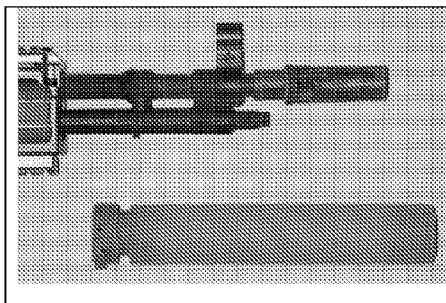
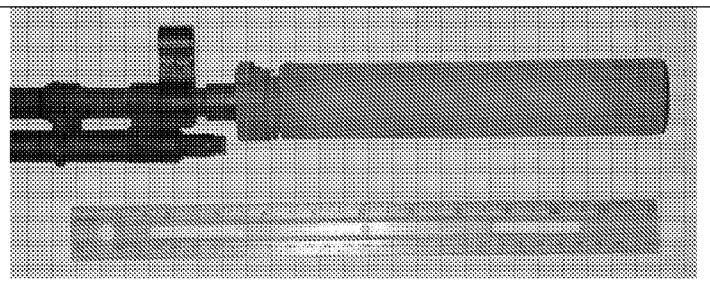

Figure 2
Figure 3
The sound/flash suppressor system used with the M40XM-3 is the SureFire Model FA762SS which is the same design and construction as the FA762K. The FA762K suppressor has recently undergone qualification testing at NSW Crane for use on the MK 14 MOD 1 Rifle. The FA762SS and the FA762K are constructed of the same materials, but the FA762K design focus is for assault rifles while the FA762SS design focus is for semi-automatic and bolt action rifles. The primary difference is a larger bore size on the first two (2) baffles in the FA762K. Both suppressors have been tested and survived durability tests in excess of the standard specified in the MK 14 suppressor tests. The sound/flash suppressor system is a two-part assembly. The flash suppressor unit internal threads interface with the barrel threads. The sound suppressor unit then slides over the flash suppressor unit and a rotating collar locks it in place by means of a spring loaded latch. Figure 2 shows the flash suppressor unit and Figure 3 shows the sound suppressor unit (FA762K).